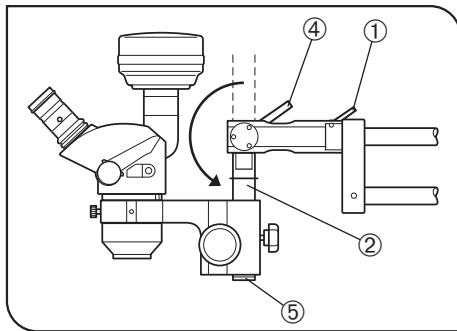

Fig. 23
b. Loosen the tilting clamping lever ④ and set the mount shaft ② so that it faces downward. (Fig. 23)
c. Remove the microscope body drop prevention screw ⑤ and mount the SZX stand arm SZ2-ST5 or SZX microscope body. (Fig. 23)
d. After mounting the microscope body, be sure to attach the microscope body drop prevention screw ⑤. (Fig. 23)